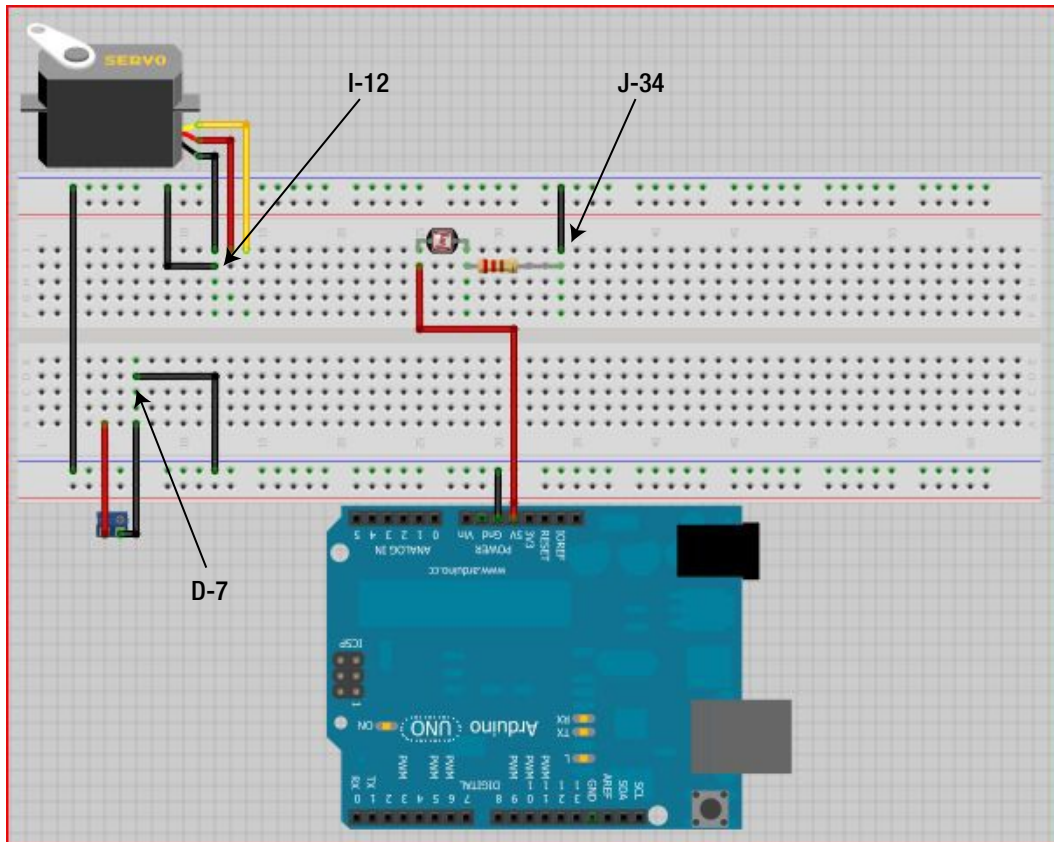

Figure 27-11. Attach ground to the servo, two-position terminal block, and the 10K-ohm resistor
10. Run a jumper wire (we used black) from the ground rail of the breadboard to D-7. Run another jumper wire (black) from the other ground rail of the breadboard to J-34. Another jumper wire (black) needs to connect I-12 to the ground rail of the breadboard. Figure 27-11 illustrates this process.